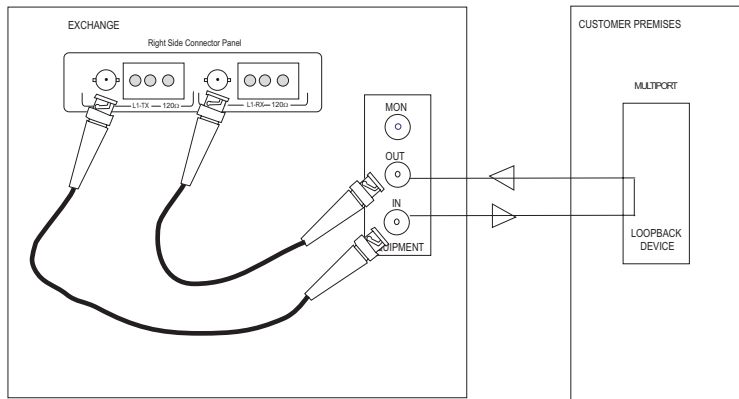

Figure 102 Accept a New Span
Here is a procedure for accepting a new circuit. The setup is illustrated in Figure 102.
- 4) Connect the SunSet to the circuit in order as shown in Figure 102.